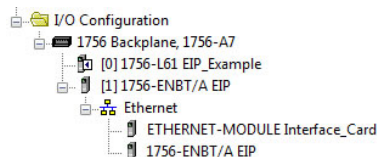

Figure 43: I/O Configuration Tree
- 21) After adding the I/O Module to the configuration, the full I/O Configuration tree should appear similar to Figure 43.